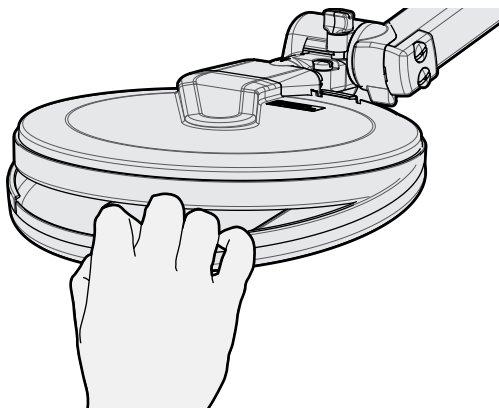

Figure 28: Replacing the Skid Plate
- g.** To replace the Skid Plate, remove the original using fingers to lever it from the coil, then push the replacement Skid Plate onto the coil (see Figure 28).